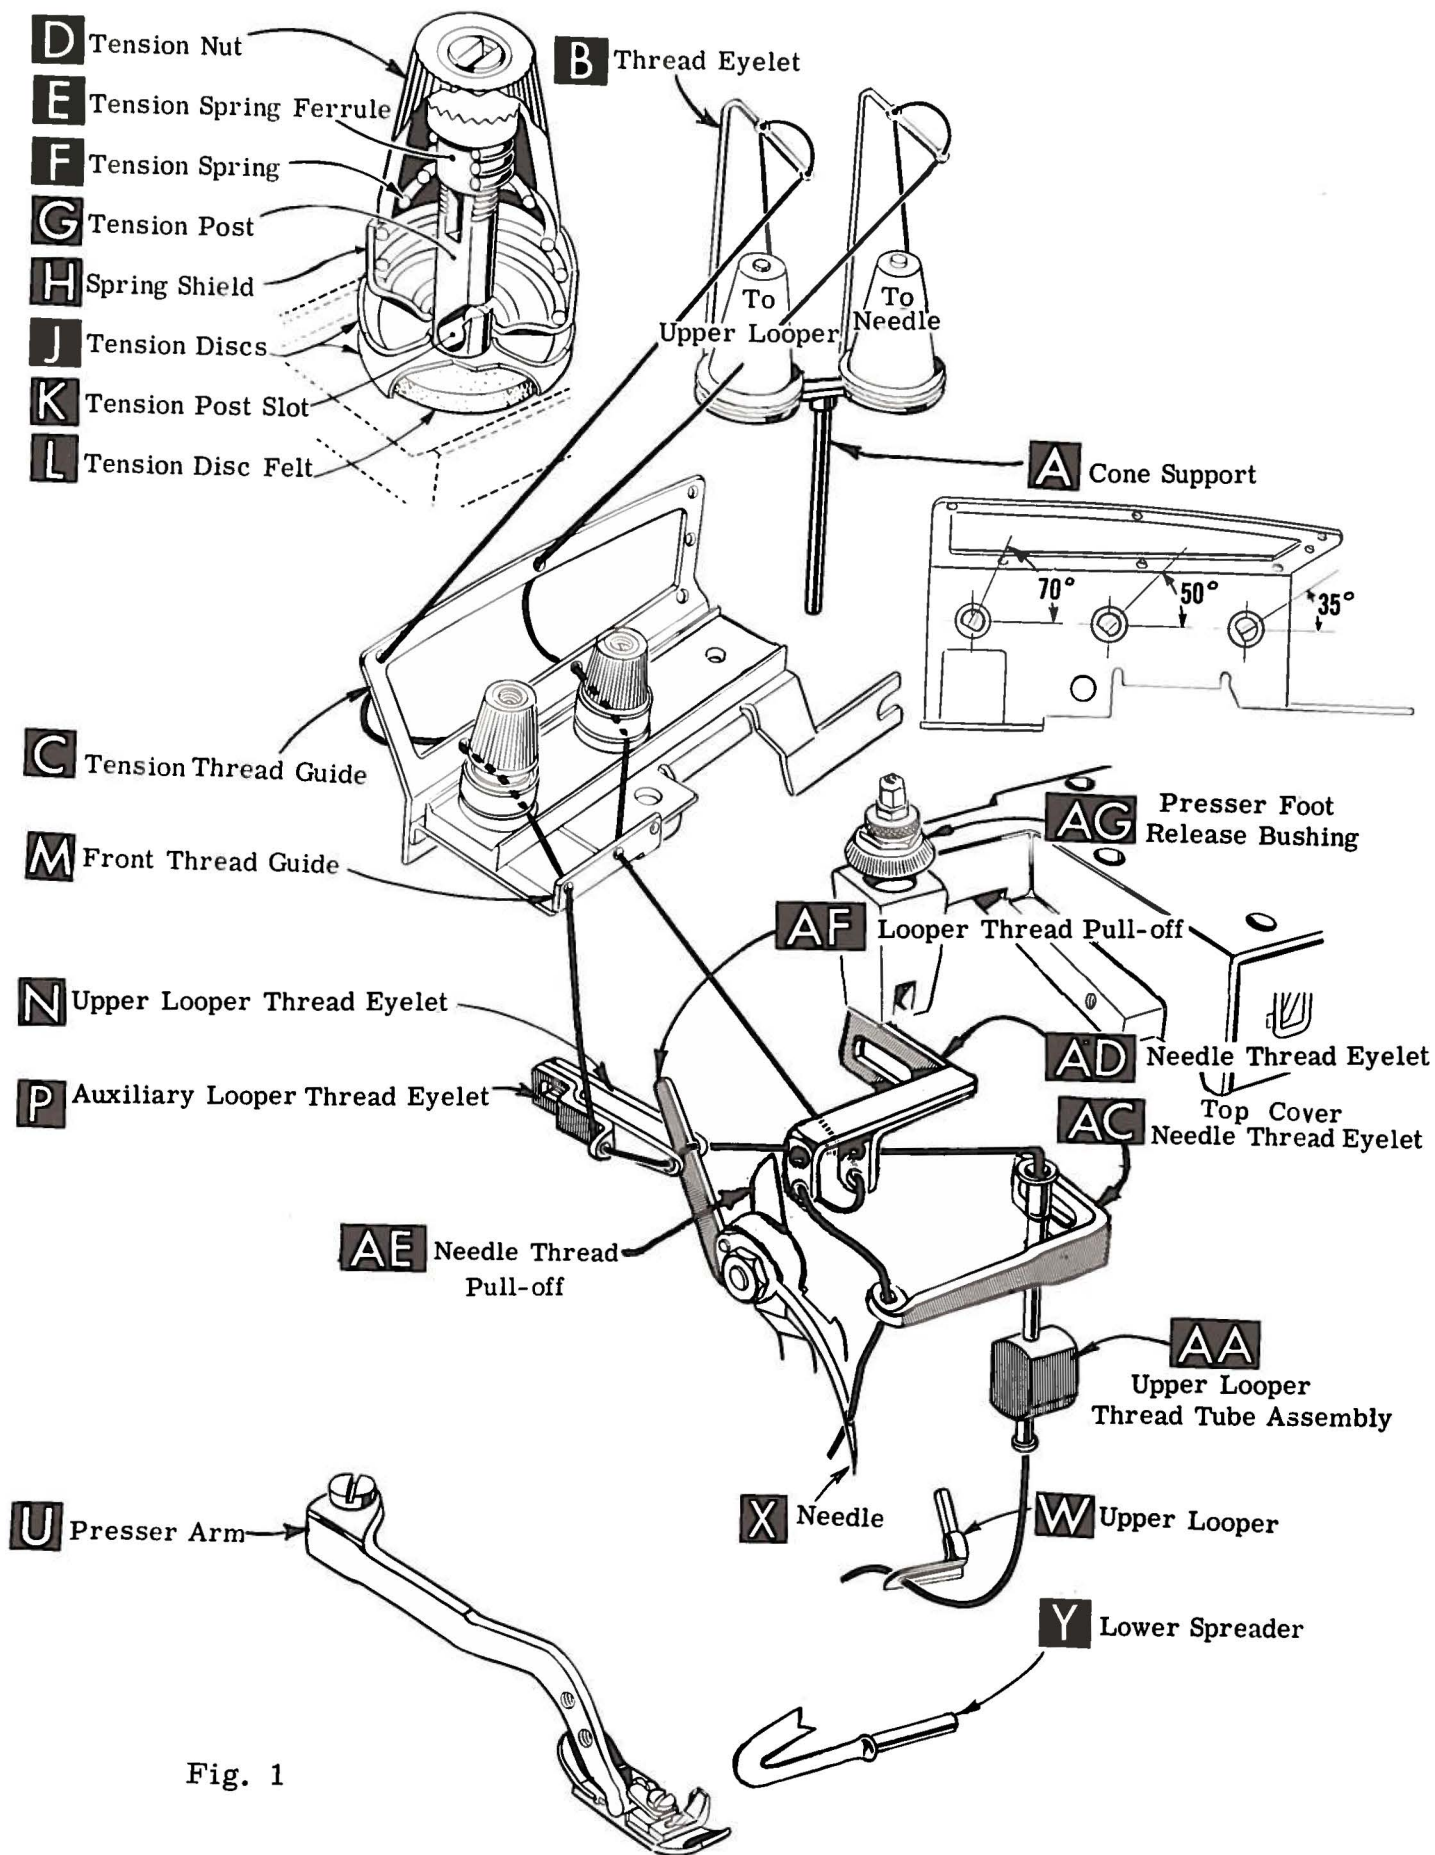

Fig. 1
Release pressure on presser foot by turning presser foot release bushing (AG, Fig. 1) and swing presser arm (U) out of position. Turn handwheel in operating direction until needle is at its lowest point of travel. Using hexagonal socket wrench No. 21388 AU, furnished with machine, loosen needle clamp nut about 1/4 turn. Again turn handwheel until needle is at high position; withdraw needle.
After thread comes from cones on cone support (A, Fig. 1), it is brought up through back hole of thread eyelet (B), then down through the front hole of thread eyelet. Next it is threaded through the upper holes of tension thread guide (C) from front to back and then through the lower holes from back to front. Threads then continue between tension discs (J), through tension post slot (K) in tension post (G) and on through front thread guide (M).
Only parts involved in threading are shown in threading diagram (Fig. 1). Parts are placed in their relative positions for clarity.
Be sure the threads, as they come from the tension thread guide (C), are between tension discs (J) and in tension post slots (K) in tension posts (G). The tension posts should be positioned so the tension post slot will be at the approximate angle for the different threads as indicated in Fig. 1.
Turn handwheel in operating direction until needle (X, Fig. 1) is at its highest position. Insert needle thread from right to left, through both eyes of needle thread eyelet (AD) under neck of top cover casting, then down through hole in top cover needle thread eyelet (AC). Thread needle from front.
The amount of tension on needle and looper thread is regulated by two knurled tension nuts (D, Fig. 1). Tension on threads should be only enough to secure proper stitch formation.
Be sure machine is threaded according to threading diagram (Fig. 1). With thread tensions light, set looper thread eyelet (N) about horizontal and in the middle of its front to back location. Operate machine slowly, without presser foot in place, to make sure that chain forms and moves off the tongue freely. Swing presser foot into position, insert material, and sew slowly.
While sewing on material, check needle thread control as follows: About 75% of needle thread required for the stitch should be drawn on needle downstroke. To increase thread drawn on downstroke, position needle thread eyelet (AD, Fig. 1) farther to the rear.
With material under presser foot, set upper looper thread eyelet (N, Fig. 1) back and down far enough so thread is a little slack when lower spreader reaches its extreme left position. Looper thread eyelet (N) should be about horizontal.
To move the purl more under the edge, looper thread eyelet (N, Fig. 1) should be raised.